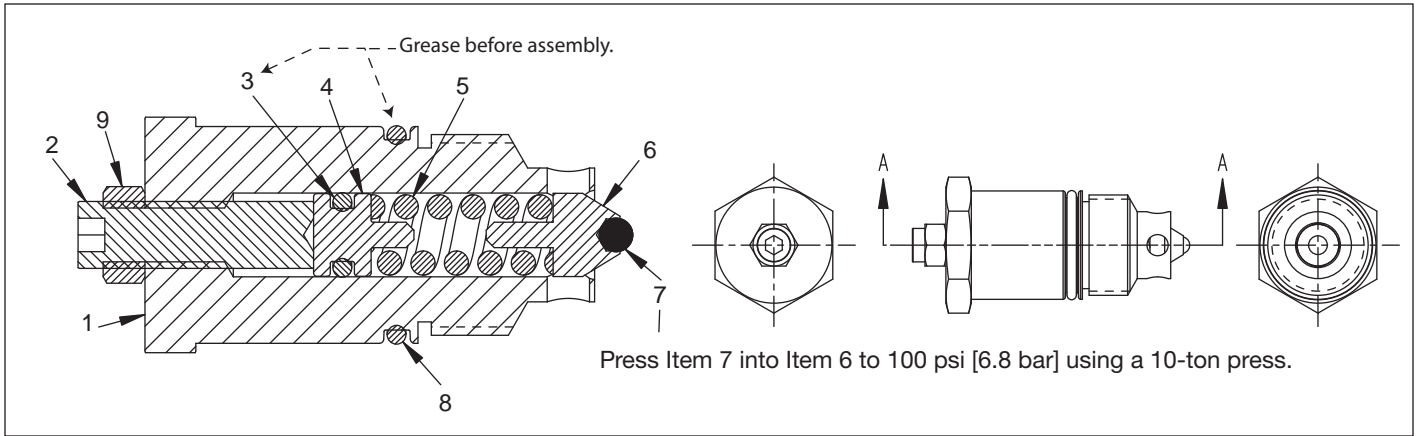
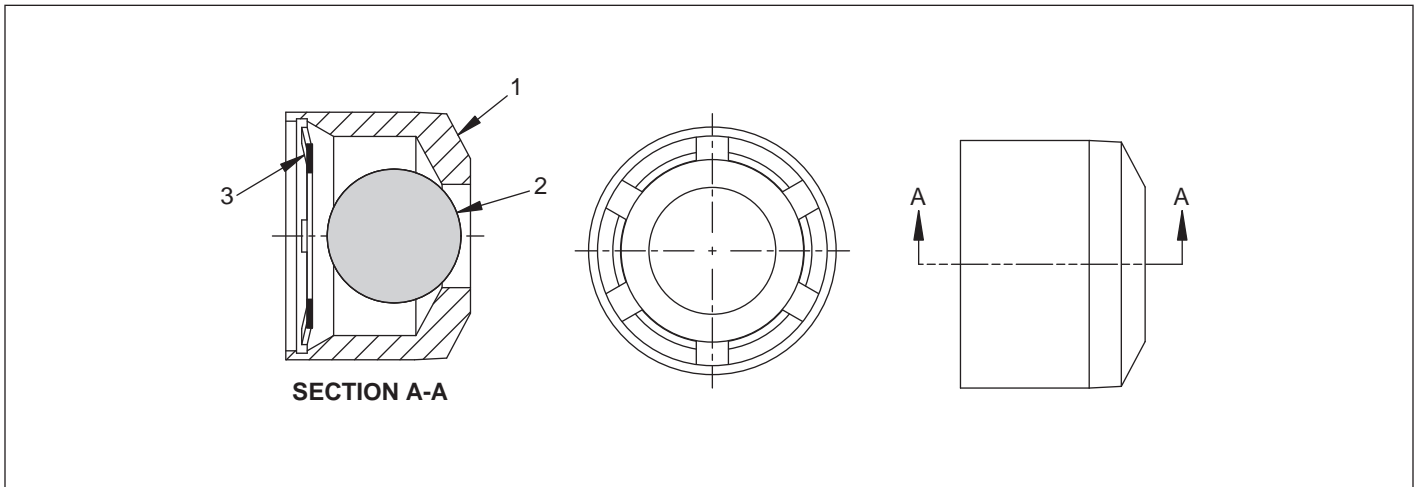

Figure 7, User-Adjustable Relief Valve Assembly
Figure 8, In-line Check Valve
Repair Parts List for Figure 7, DC5139900SR, User Adjustable Relief Valve Assembly
**Repair Parts List for Figure 8, DC5140900SR,
1. Inability to obtain any pressure may be the result of damaged connector seals on the pump, or failed relief valve components (items 6, 7, figure 7) a damaged ball and seat in the body (items 1, 2, figure 8), or damaged or worn shear seals and disc (items 16, 18, 84, figure 1D). These problems are usually a symptom of contaminated hydraulic oil. The system should be drained and refilled with fresh ENERPAC hydraulic oil.
5. Leakage observed on the external surfaces around the relief valve body (item 1, figure 7) is an indication that the o-ring (item 8) needs to be replaced.
8. Remove the shaft assembly and inspect the o-ring (item 15) and backup ring (item 14) for damage. Replace if needed.
9. Remove the o-ring (item 10) and inspect for damage such as nicks or cuts. Replace if needed.
10. Remove the bearing (item 12) and bearing plate (item 11) and inspect for damage. Replace if needed.
11. Remove the shear seal assemblies (items 18-20 or 84-86) from the bores in the body.
12. Remove o-rings (item 20 or 86) and backup washers (item 19 or 85) and inspect for damage. Replace if needed.
13. Remove springs (item 22) and inspect for damage such as breakage or permanent set. Replace if needed.
15. Loosen lock nut (item 9, figure 7) and unscrew the set screw. (item 2).
17. Remove the seat (item 57) from the body.
19. Inspect the o-ring (item 8, figure 7) for damage and replace if necessary.
20. Inspect the ball (item 7) and guide (item 6). Replace if necessary.